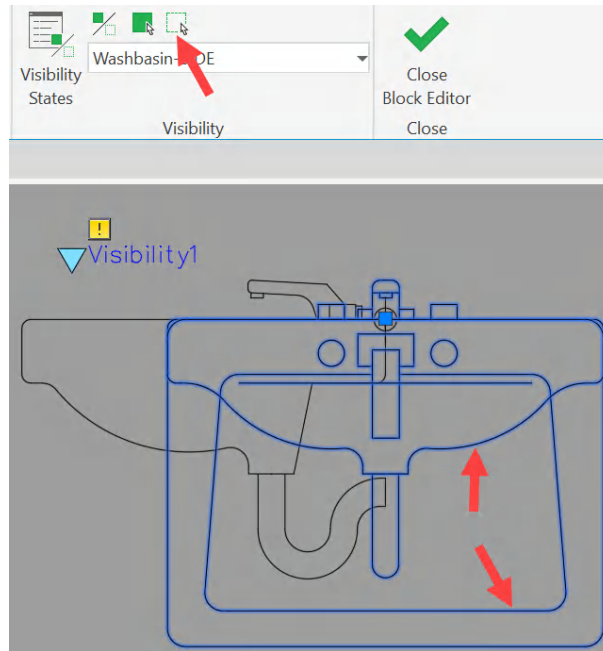

Figure 12.29: The other two blocks selected to be made invisible
14. Select the two other blocks representing the top and front views, as shown in *Figure 12.29*. Then, click the green dashed icon, also shown in *Figure 12.29*. This will make them both to be invisible in the current visibility state.